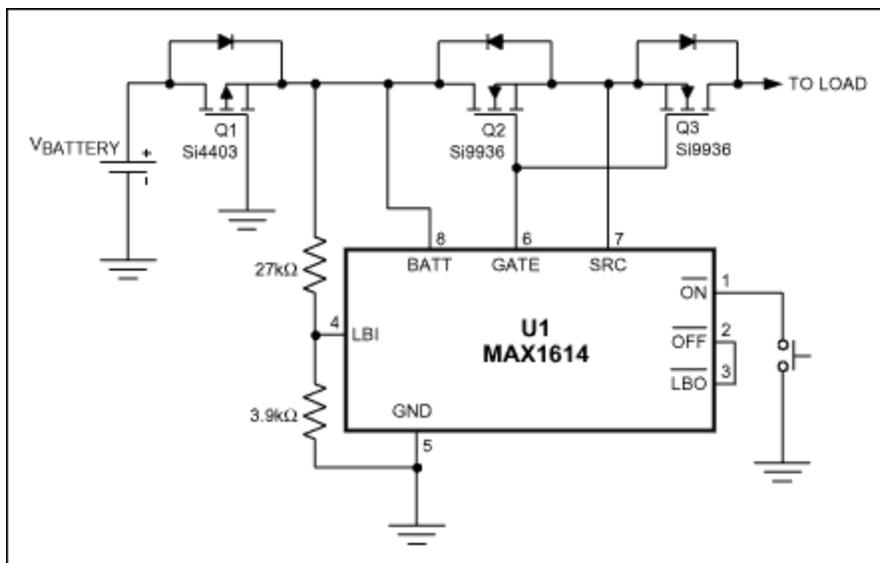

Figure 1. An external p-channel MOSFET (Q1) easily protects this MOSFET driver (U1) against reversed batteries and reversed load current.
**Figure 1** illustrates an improvement over single-diode protection. A p-channel MOSFET (Q1) protects the driver (U1) from reverse-battery insertion. Q1's low on-resistance of 10m $\Omega$  or less produces a forward-voltage drop of only a few millivolts (vs. hundreds of millivolts for a diode). Thus, substituting a MOSFET for the diode provides an immediate improvement in efficiency.
Besides reverse-battery protection, the Figure 1 circuit also protects against reverse load current at startup. Q3 ensures that no load current flows until U1 enables both n-channel MOSFETs (Q2 and Q3). Reverse load current can cause Q1 to turn on inadvertently, leaving the circuit unprotected against reversed-battery connections.